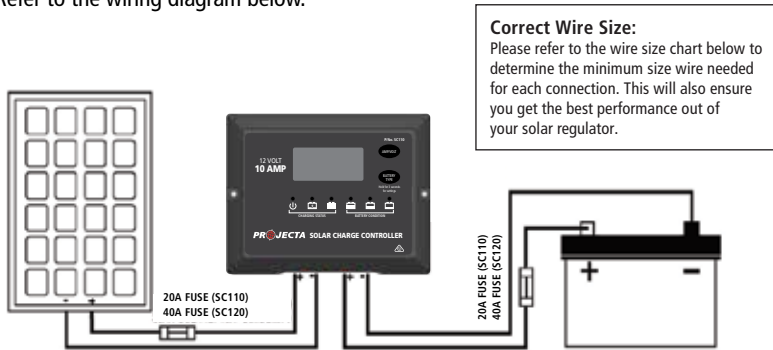

Fig 3.
1. Using the string wires, tightly screw the wires to the "Solar" terminal on the back of the controller and connect to the solar panel as shown above in Fig 3.
2. Using the string wires, tightly screw the wires to the "Battery" terminal on the back of the controller and connect to the battery as shown above in Fig 3.